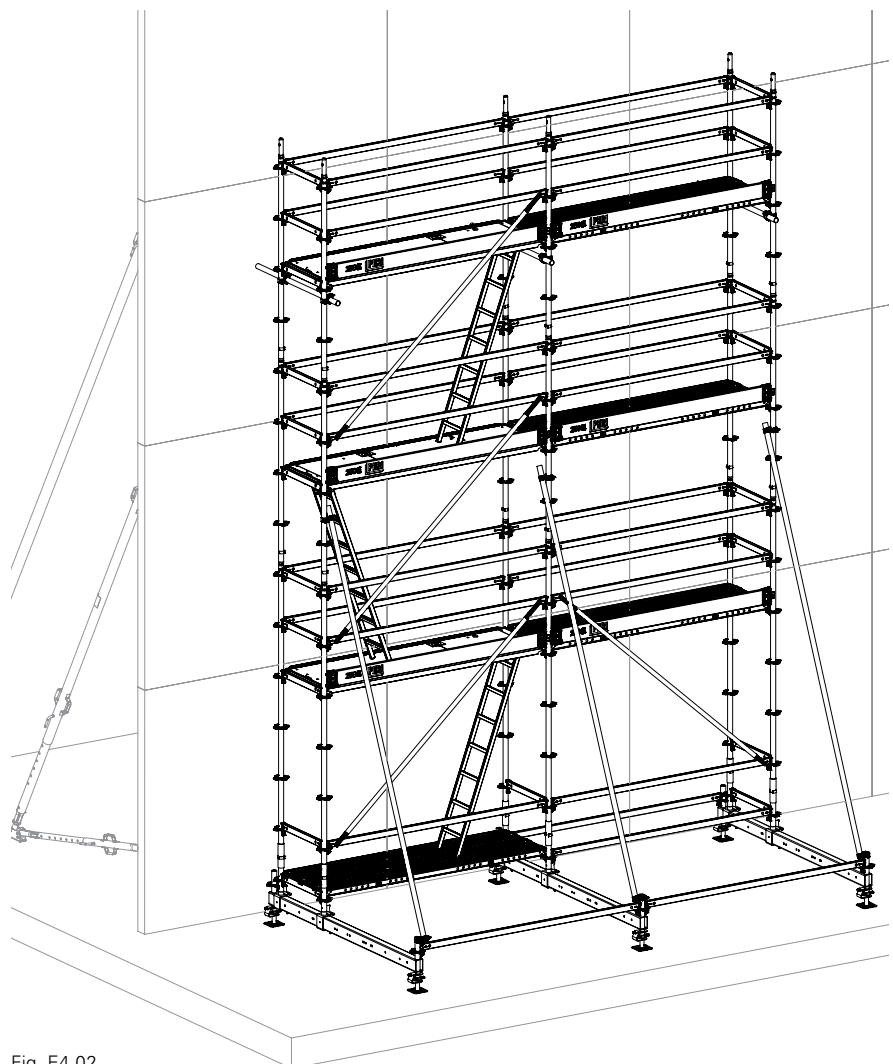

Fig. E4.02
9. Additional assembly as described in Sections B1 - B3. (Fig. E4.02)